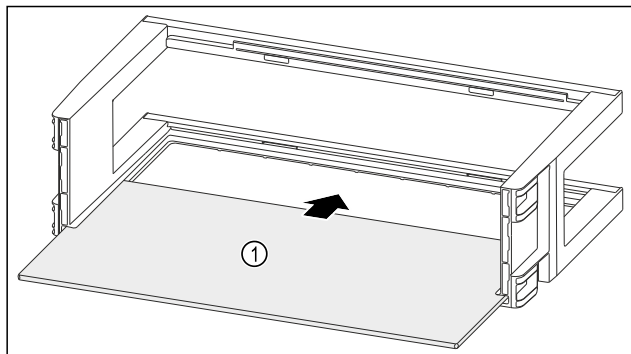

Fig. 121
- Push the shelf Fig. 121 (1) into the side recesses.